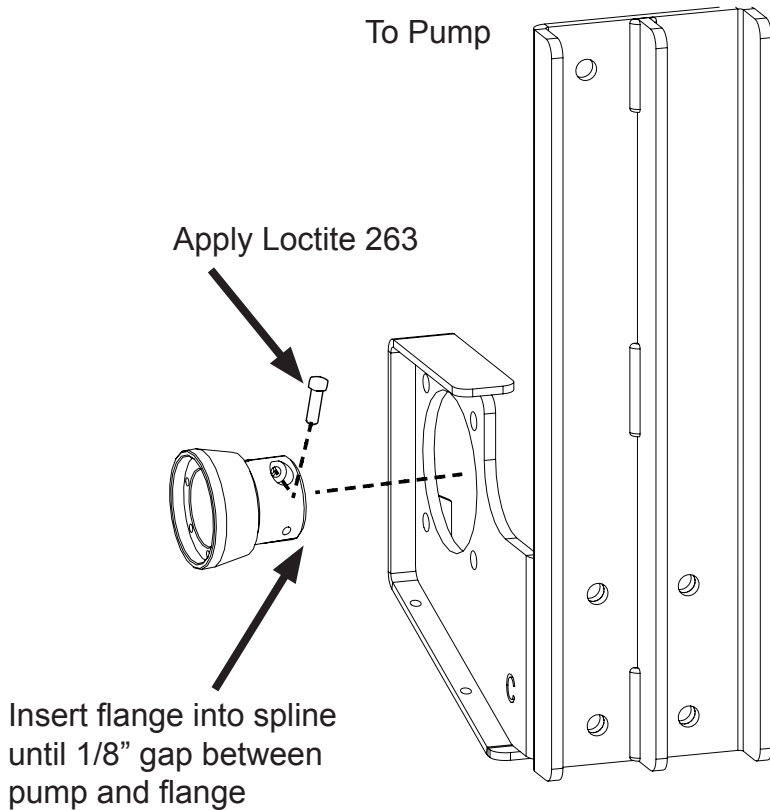

Figure 11
5. Apply Loctite 263 to the new two (2) 6mm Allen head bolts.
6. Install the CV shaft adapter flange into the pump spline until there is a 1/8" gap between the pump and flange (Figure 11).